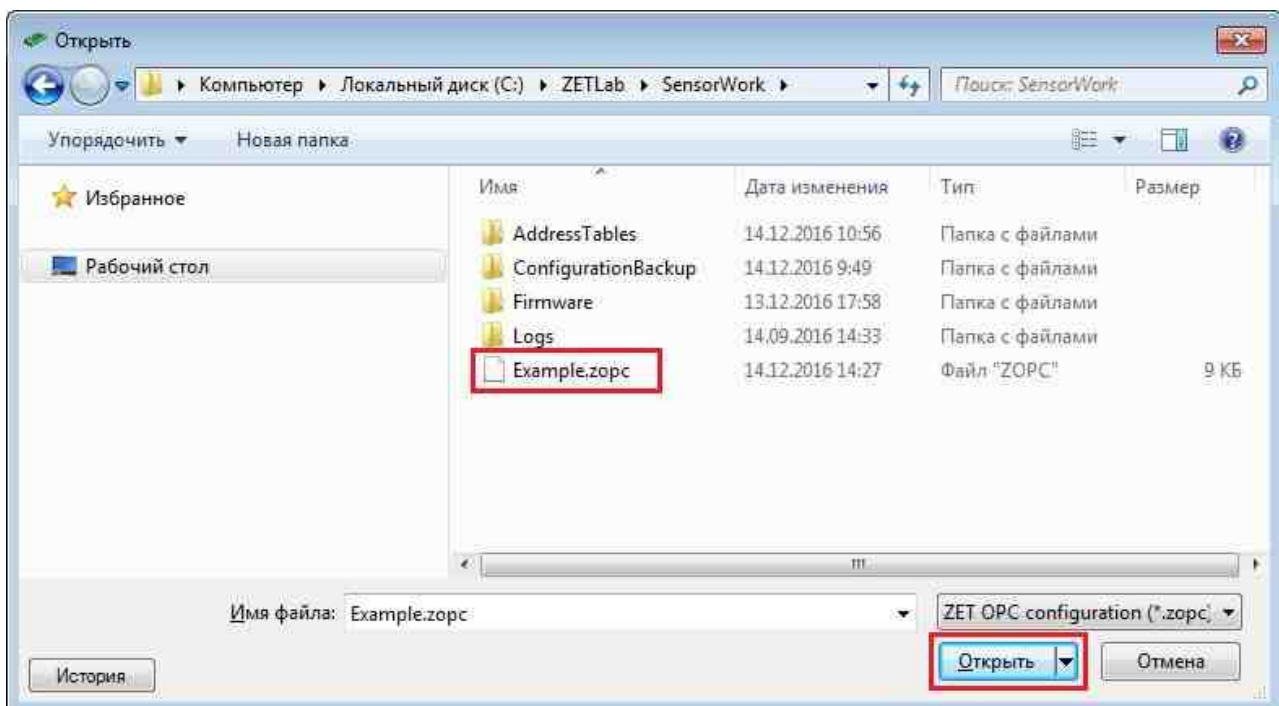

Fig.8.6 "Open" window
7. In the "Open" window that opens, select the previously created configuration file and activate the "Open" button (Fig.8.6).